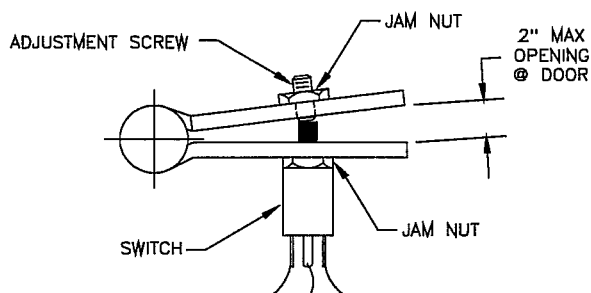

FIGURE 4
2. Adjust screw so switch will break at a maximum door opening of 2" - see FIGURE 4